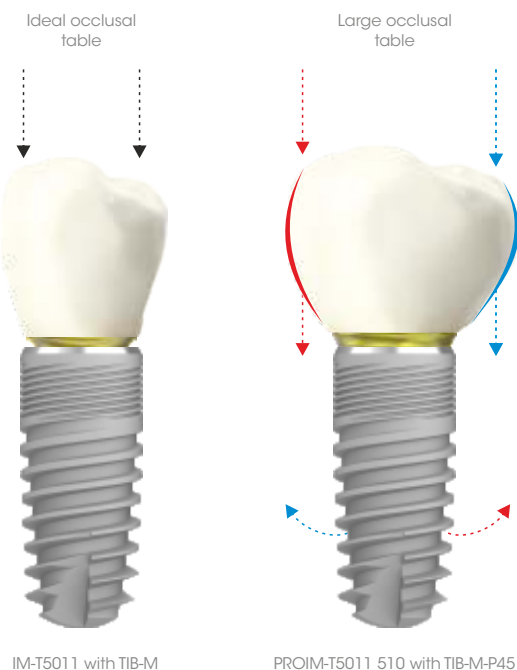

Fig 1: with large occlusal tables, maximise the platform dimension with platform matched components.
- the occlusal table of the crown will be significantly larger than that of the implant and abutment (Fig. 1).